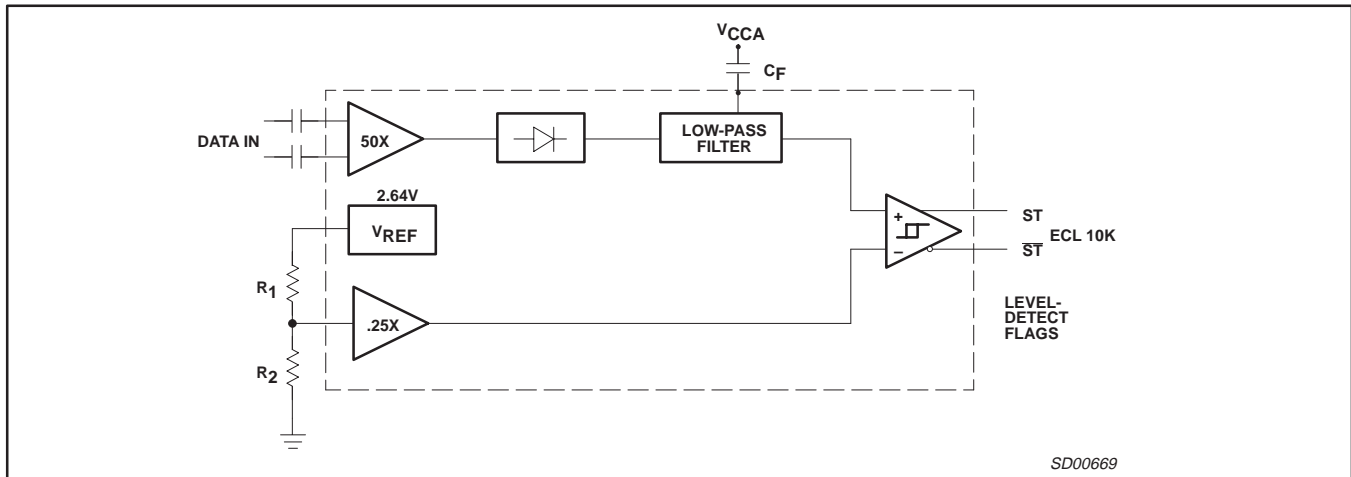

Figure 6. SA5225 Sample Application: Input Signal Level-Detect System
Figure 6 shows a simplified block diagram of the SA5225 level-detect system. The input signal is amplified and rectified before being compared to a programmable reference. A filter is included to prevent noise spikes from triggering the level-detector. This filter has a nominal 1 μ s time constant, and additional filtering can be achieved by using an external capacitor (CF) from Pin 7 to V_{CCA} (the internal driving impedance is nominally 24k). The resultant signal is then compared to a programmable level, V_{SET} , which is set by an internal voltage reference (2.64V) and an external resistor divider (R1 and R2). The value of $R1 + R2$ should be maintained at approximately 5k.